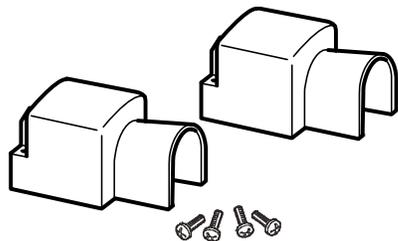

Figure 8 DC Terminal Covers
- To protect the DC terminals, attach the DC terminal covers (Figure 8) to the inverter/charger, using the screws provided.